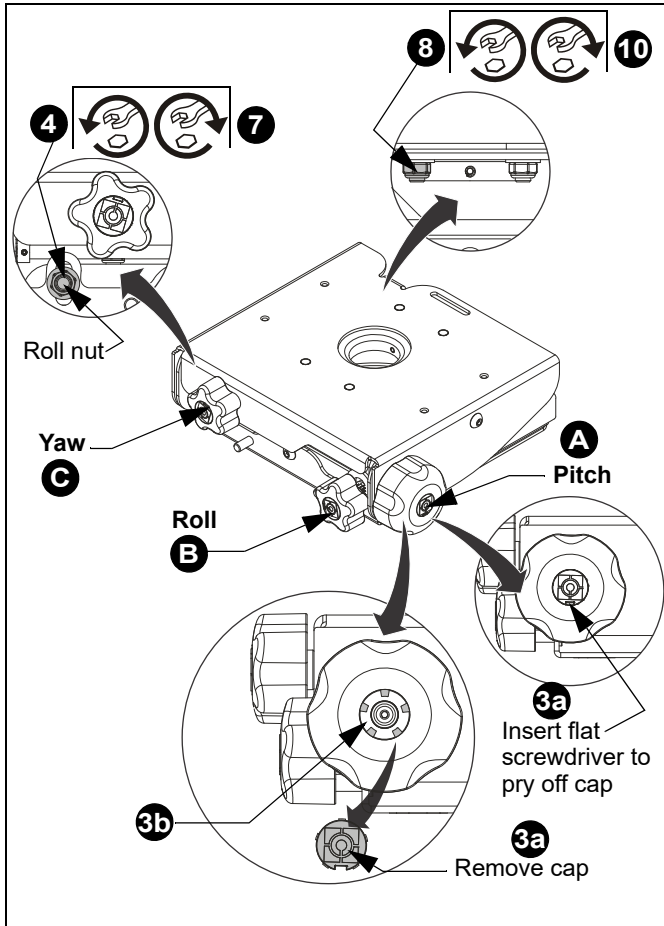

Figure 4
1. Turn **PITCH** knob (**A**) counterclockwise to pitch down. (See Figure 4)
- **3b:** Insert pitch socket adapter (H) into knob
4. Loosen Roll nut (located immediately below and left of **YAW** knob [black nut on white mount, silver on black mount]). (See Figure 4)
8. Loosen Yaw nut (black nut on white mount, silver on black mount) accessible through back of mount. (See Figure 4)